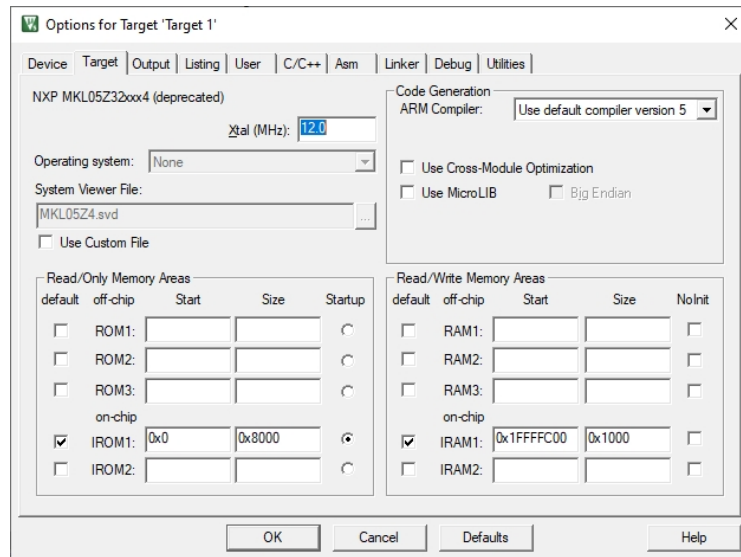

Figure 7. Options for target microcontroller
- a. On the second toolbar row, click the  Target Options icon (or select menu Project→Options for Target 'Target1' ...) to launch the Options for Target 'Target1' window, as shown in Figure 7.